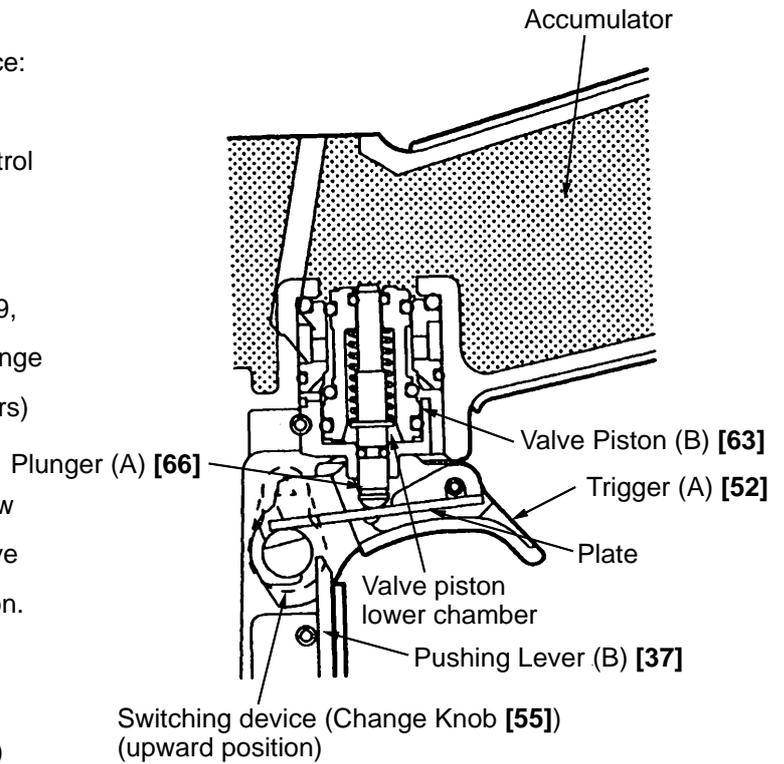

Fig. 9 Single actuation mechanism
(4) Single actuation mechanism/contact actuation mechanism: (Fig. 9 and Fig. 10)
- 2) When only Pushing Lever (B) [37] is released and Trigger (A) [52] is held as shown in Fig. 9, the plate of Trigger (A) [52] contacts the Change Knob [55] and Plunger (A) [66] returns (lowers) only halfway.